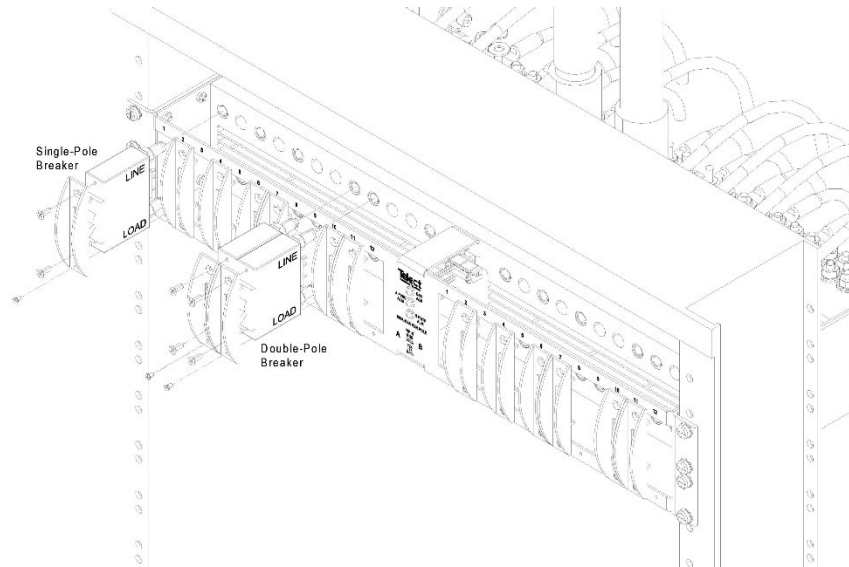

Fig. 11: Installing circuit breakers
22. Install circuit breakers or fuses, as shown in Fig. 11 and 12.